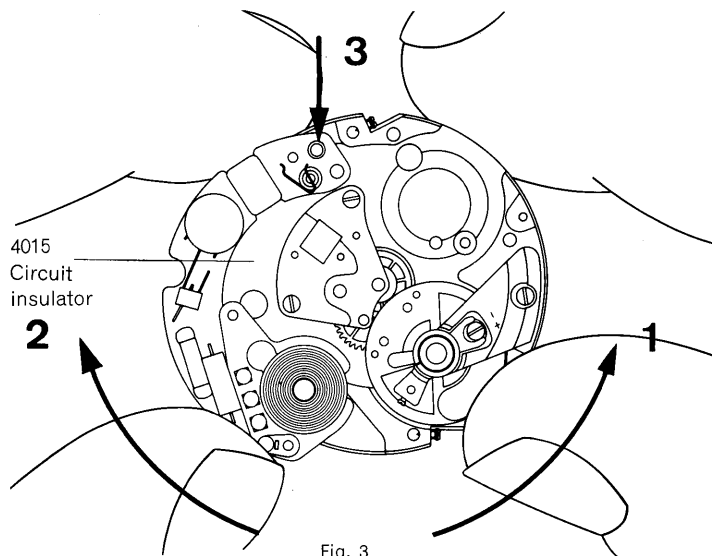

Fig. 3
- 5.1.4. Turn the balance as shown in fig. 3 point 1. Keep the balance in this position. Turn circuit No. 4010 round the guide tube, point 3. of illustration. Using great care, disengage the portion of the circuit that is opposite the guide point, point 2. of illustration. When the circuit is in the position shown in fig. 3, remove it from the guide tube.
- 9.2. Place the circuit in the position shown in fig. 3. Pull the balance aside as at (1). Turn the circuit in the direction opposite to that indicated by the arrow (2).